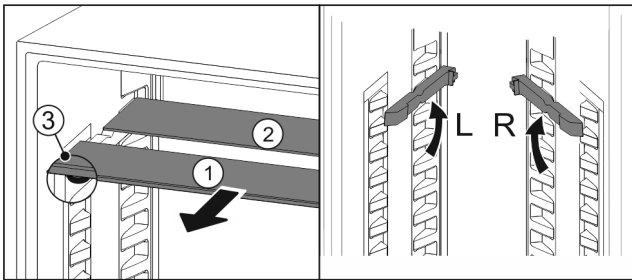

Fig. 84
- ▶ Pull the glass panels out Fig. 84 (1) from the front, one at a time.
- ▷ The glass panel Fig. 84 (1) and trim strip are at the front.
- ▷ The stops Fig. 84 (3) point down.